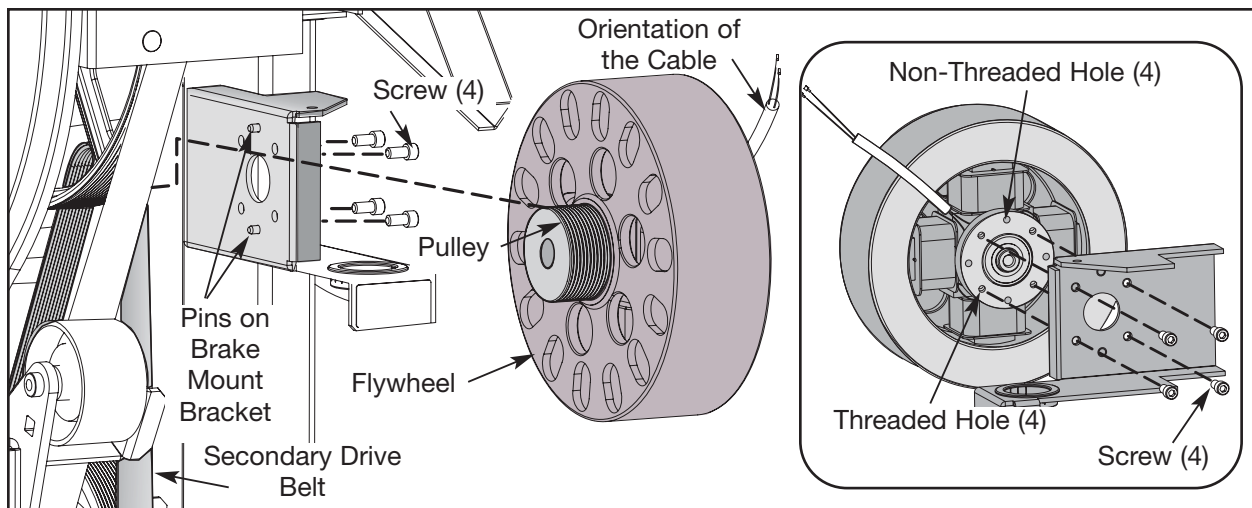

Figure 16
- A. Wear work gloves whenever handling the eddy current brake. The pulley is sharp. See Figure 16.
- C. Using a 3/16" Allen wrench, first remove the two bottom screws securing the eddy current brake in place. See Figure 16.
- A. Locate the holes on the eddy current brake. Notice that there are four threaded holes and four non-threaded holes. See Figure 16.
- B. Locate the two pins on the brake mount bracket. See Figure 16.
- C. Orient the brake with the cable away from the unit. See Figure 16.
- G. Using a 3/16" Allen wrench, first tighten the two top screws securing the eddy current brake. See Figure 16.